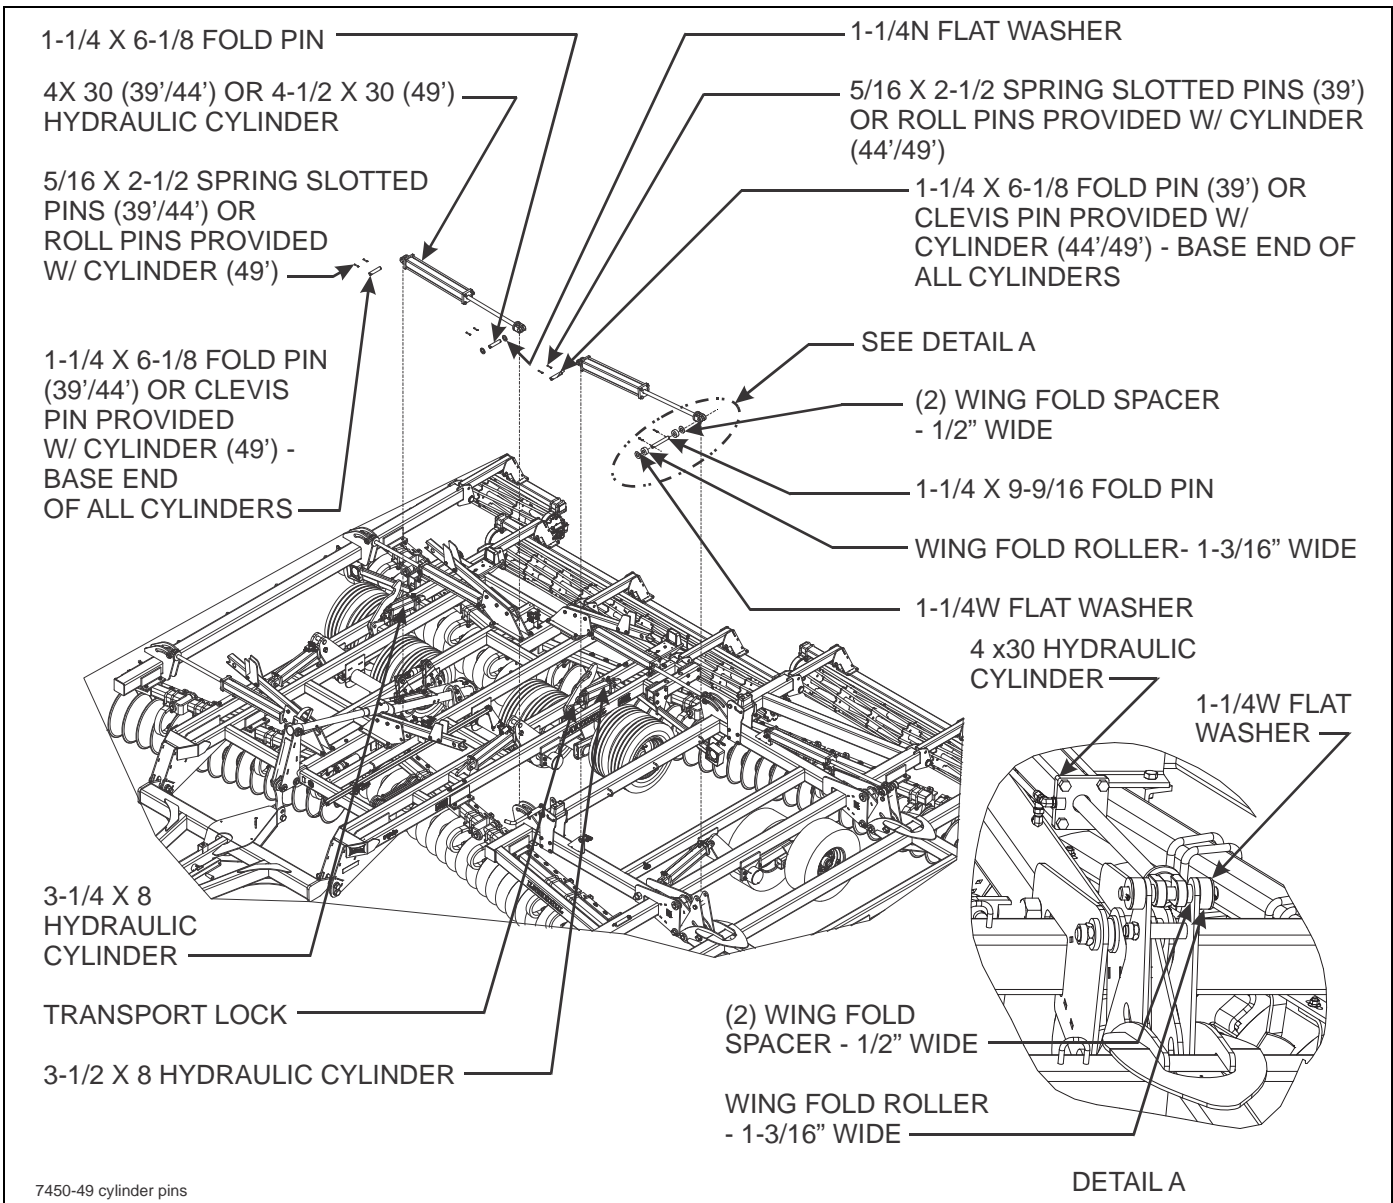

Figure 3-18: Fold Hydraulic Assembly
1. Attach the base end of the 4 x 30 (7450-39'/ 7450-44') or 4-1/2 x 30 (7450-49') fold cylinder to the fold cylinders mounts on the center frame with the pins and roll pins as designated in **Figure 3-18**. Position the cylinders so the hydraulic ports point to rear on front and to front on the rear and toward the center of machine.
2. Using a 1-1/4 x 6-1/8 fold pin, flat washers, and 5/16 x 2-1/2 roll pins, attach the rod end of the 4" x 30" cylinders to the slotted mounts on the inner wing frames (See **Figure 3-18**.)
4. Using a 1-1/4 x 9-9/16 fold pin, flat washers, wing fold rollers, wing fold spacers, and 5/16 x 2-1/2 roll pins, attach the rod end of the 4" x 30" cylinders to the fold links on the double hinge (See **Figure 3-18**.)